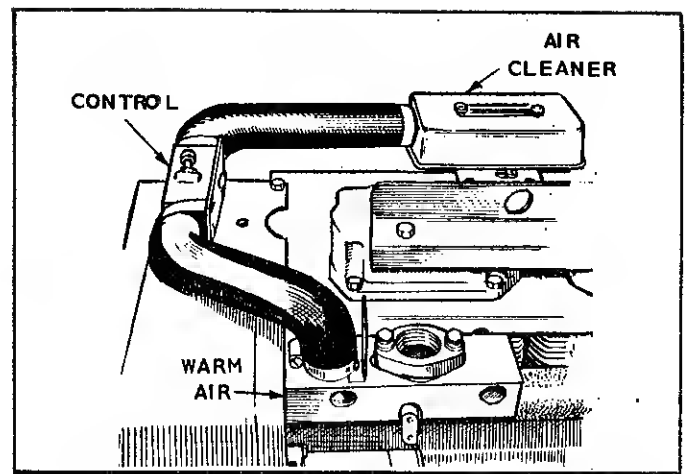

FIGURE 27. CARBURETOR AIR PRE-HEATER
**CARBURETOR AIR PRE-HEATER (Optional) (Fig. 27):**